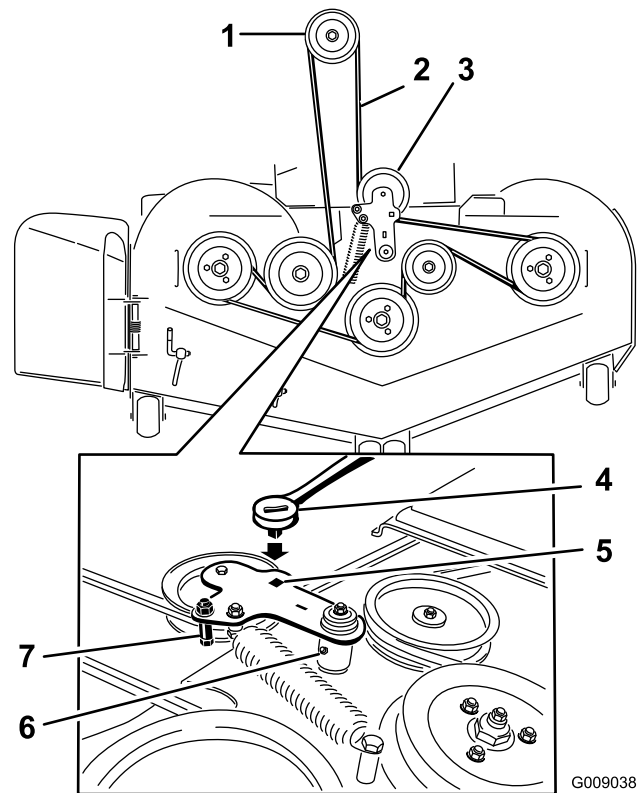

Figure 109
5. Lift up the floor pan and insert a ratchet into the square hole in the deck idler (Figure 109).
6. Rotate the deck idler clockwise and remove the mower belt (Figure 109).